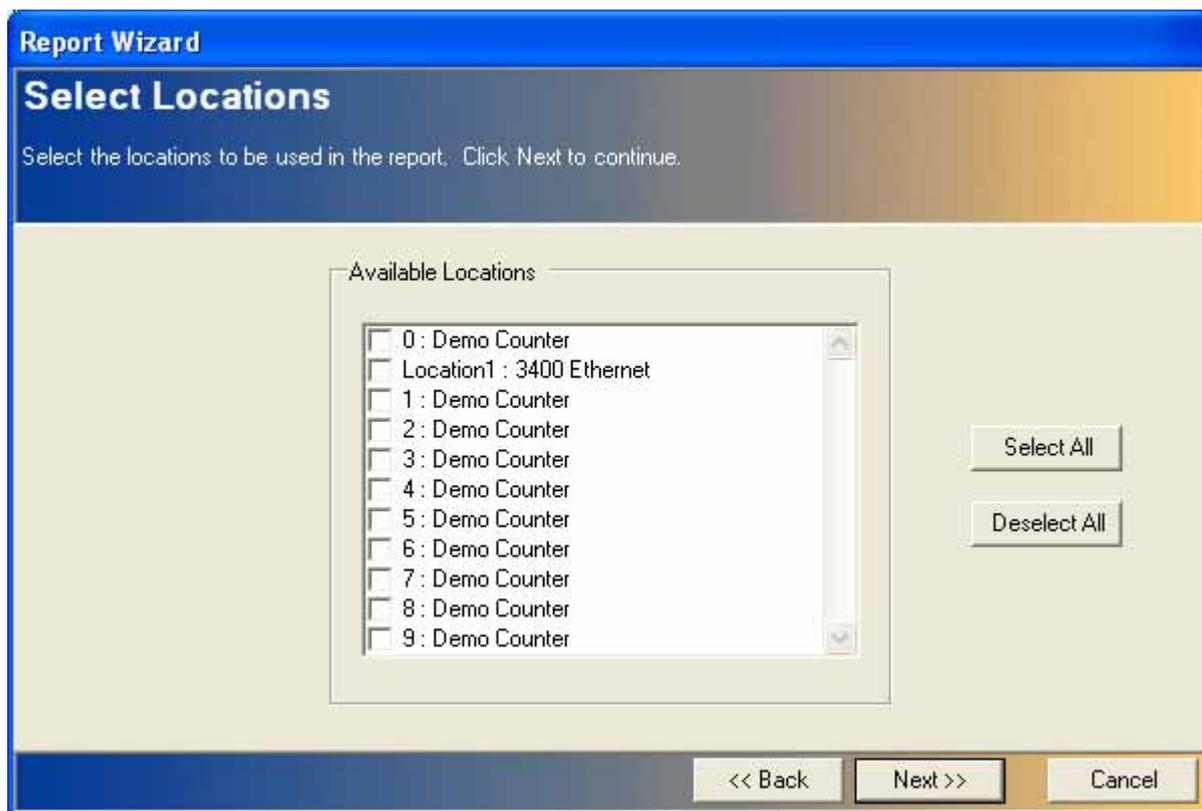

Figure 40 Report Wizard—Select Locations
7. In the Locations screen, select the locations for the report (Figure 40).